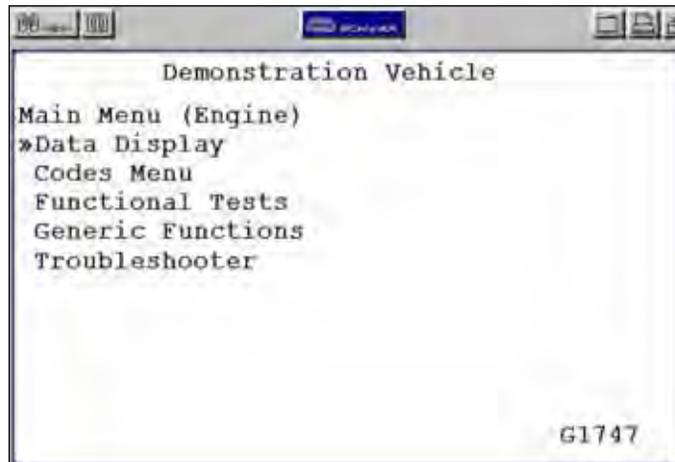

Figure 5-14 Sample system main menu
- Press **N/X** until you reach the main menu (Figure 5-14).